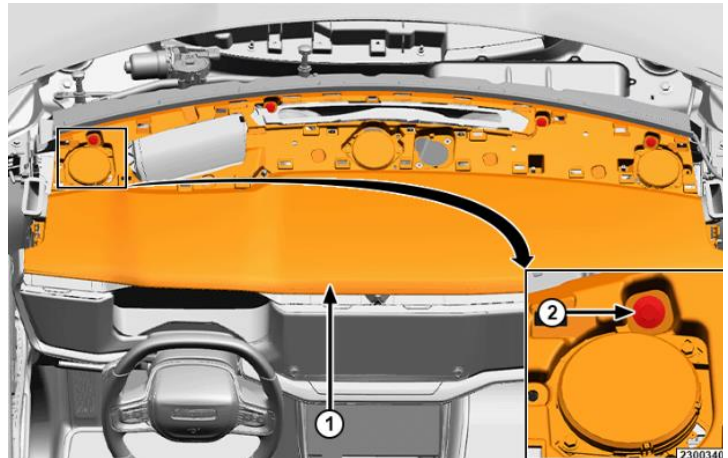

Figure 13 – Plenum to Dashboard Bolts
- 29. Remove the bolts along the top of the instrument panel (Figure 13).
13. Install the bolts along the top of the instrument panel and tighten to 25 N·m (18 ft. lbs.) (Figure 13).